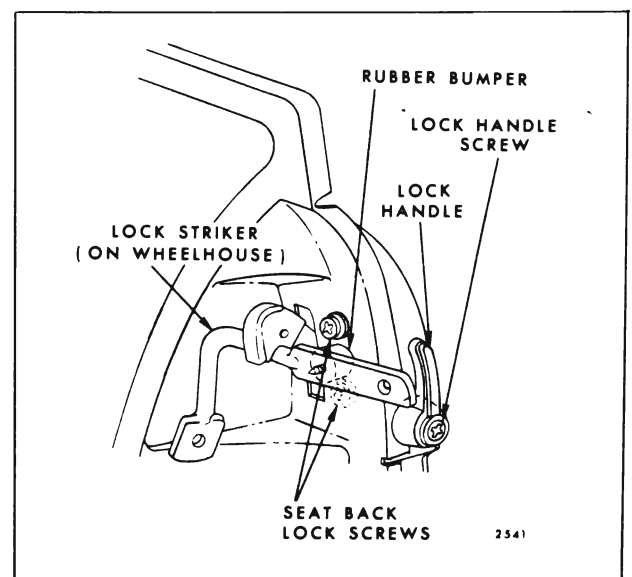

Fig. 15-66—Folding Second Seat Back Lock & Striker - All "A, B & X" Station Wagons
4. To install seat back lock assembly, reverse removal procedure. A small amount of lock adjustment is available to obtain proper engagement of lock bolt with lock striker on wheelhouse as shown in Fig. 15-66.